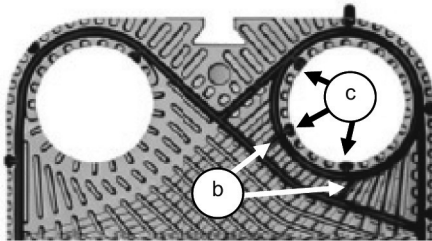

Fig.9
- On the other half, use shears to remove all the Plug-In® tabs and, if present, all the connecting bridges between the diagonal and the sealing ring (Fig.9 b). So, following the procedure described in point 5.7.3, attach the gasket, excluding the sealing rings.
1. Models equipped with Plug-In® tabs inside the sealing rings: using shears, cut the Plug-In® tabs inside the sealing rings (Fig. 9 c) corresponding to the closed holes only. Then, following the procedure described in point 5.7.3, attach only the connecting bridges between the diagonal and the ring.